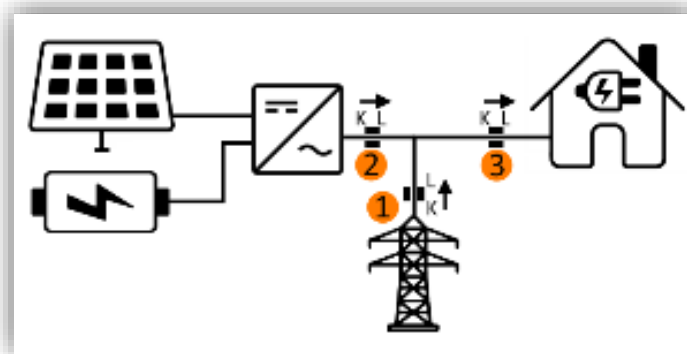

Figure 161. Installation diagram with solar panels and battery
This section defines the points of the installation where the measurements must be taken in order to have a correct operation of the global tab of the energy monitor. Figure 161 shows the diagram of an installation with solar panels and battery:
- **Installation without solar panels or battery:** only point 1 shown in the diagram in Figure 161.